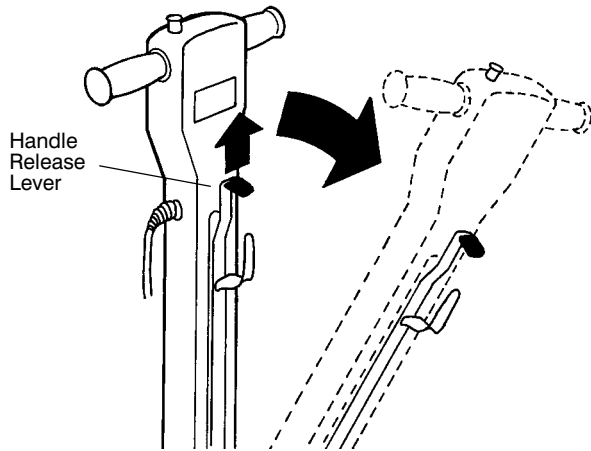

FIG. 2.
7. To adjust handle to a comfortable height, lift handle release lever and lower handle to desired height. Handle will lock into position when release lever is released (Figure 2.).